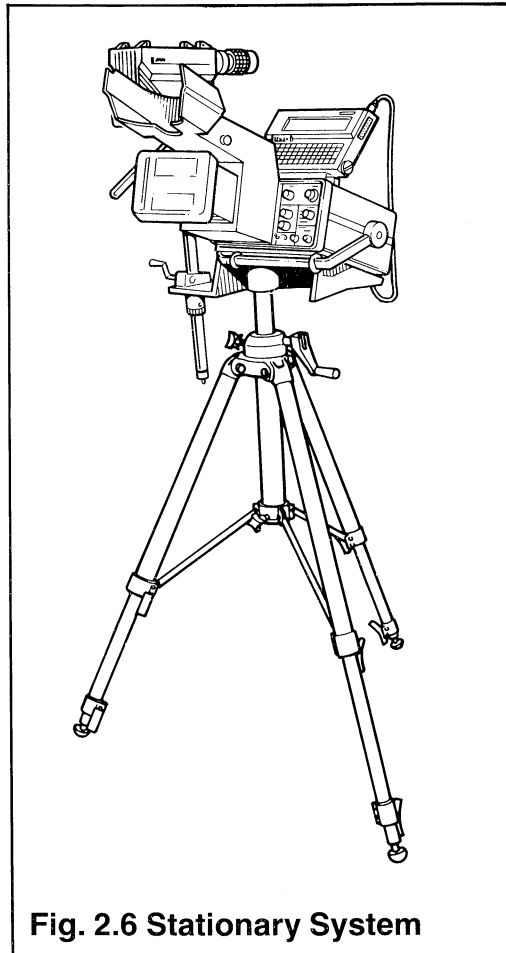

Fig. 2.6 Stationary System
- (b) **Stationary System** is designed for static installation with scanner and display mounted on a fixed tripod. It can be combined with the desk computer, colour monitor or colour graphics printer and provides the complete facility requirements for scientific analysis of thermograms (Fig. 2.6).